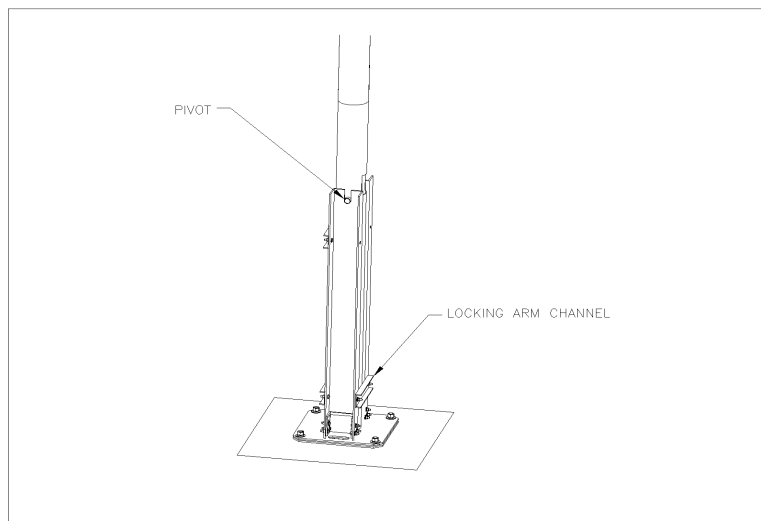

Figure 1-30. 10-Meter Tower Pivot Assembly - Close-up
- a. Remove two bolts (3/4") securing single locking assembly channel to C-channels at tower base (Figure 1-30).